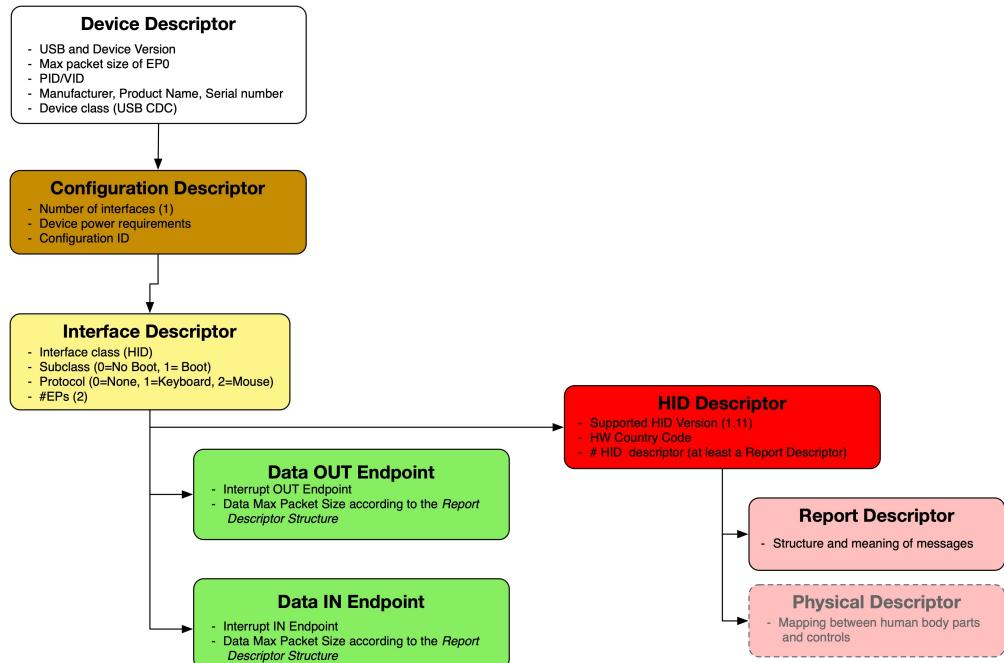

Figure 20: Descriptors hierarchy in a USB HID device
- **Interrupt Endpoints:** a HID device communicates with the HID class driver using either the *Control* (default) EP0 endpoint or two *Interrupt* endpoints (called Data IN/OUT in Figure 20). The *Control* endpoint is used for receiving and responding to requests for USB control and class data, for transmitting data when polled by the HID class driver (using the GET_REPORT request) and for receiving data from the host. The two *Interrupt* endpoints are used for